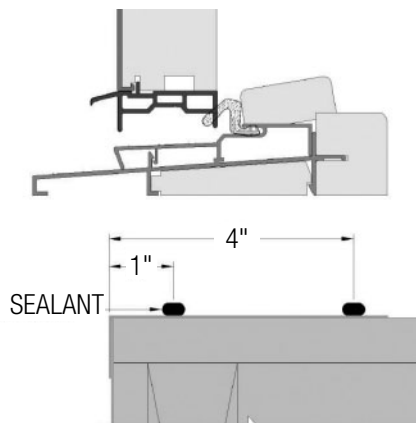
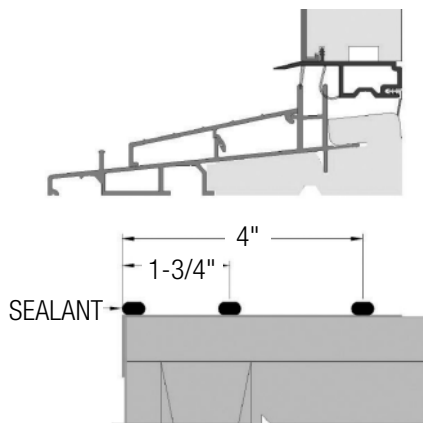

FIG. 9: OUT-SWING PATIO DOOR SILL
FIG. 10: 4-9/16" & 6-9/16" IN-SWING PATIO DOOR SILL
- Apply three 1/4" continuous beads of silicone across the entire width of the rough opening. Note that the locations are different for each door type. Figure 10 shows the silicone location for a 4-9/16" and 6-9/16" in-swing door. The bead location will be different for other jamb sizes. (Fig. 9, 10 & 11)